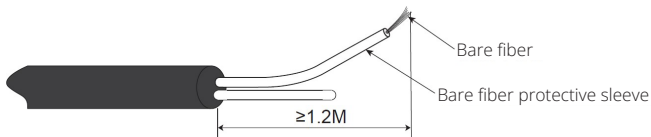

Figure 1-15: Strip the branching cable
- 2 Strip the branching cable to a suitable length of ≥ 4 ft. (1.2 m) (Figure 1-15).